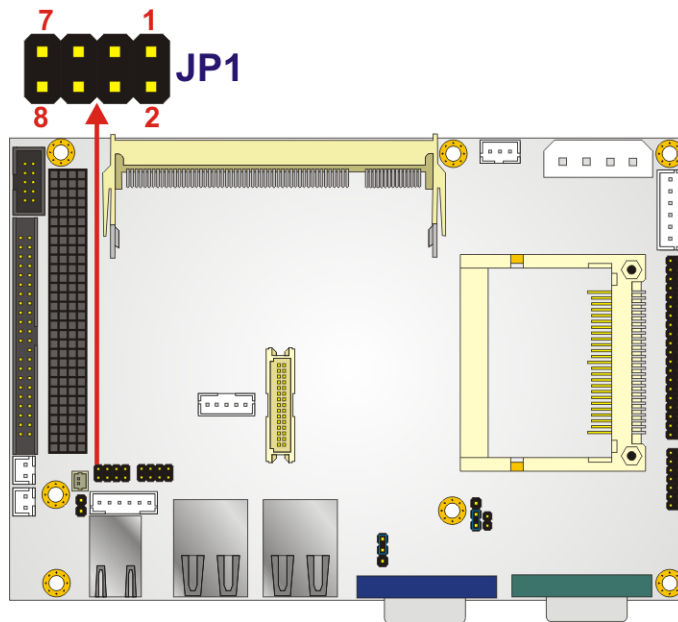

Figure 5-9: LCD Resolution Jumper Location
- Jumper Location:** See **Figure 5-9**
The LCD resolution jumper location is shown in **Figure 5-9**.